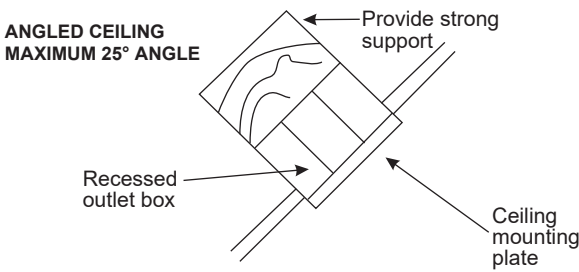

Figure 3
**NOTE:** You may need a longer downrod to maintain proper blade clearance when installing on a steep, sloped ceiling. (Fig. 3)